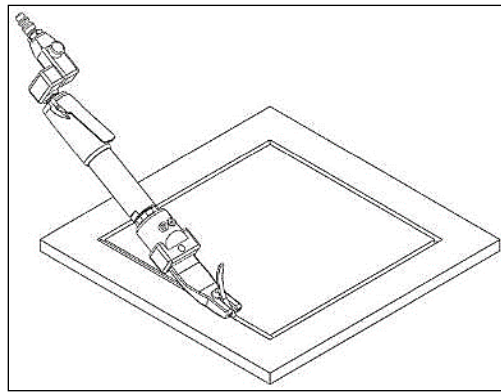

Figure 10. Gap Filler Removal
- 3.2.4. With the shallowest TGB installed (0.075"), fully depress the lever on the pneumatic tool and apply forward pressure and guide the TGB through the gap filler. See **Figure 10**.